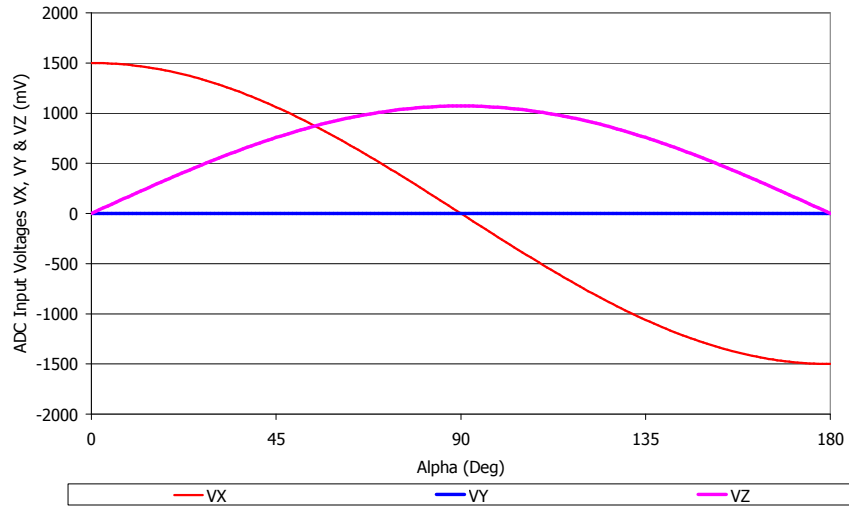
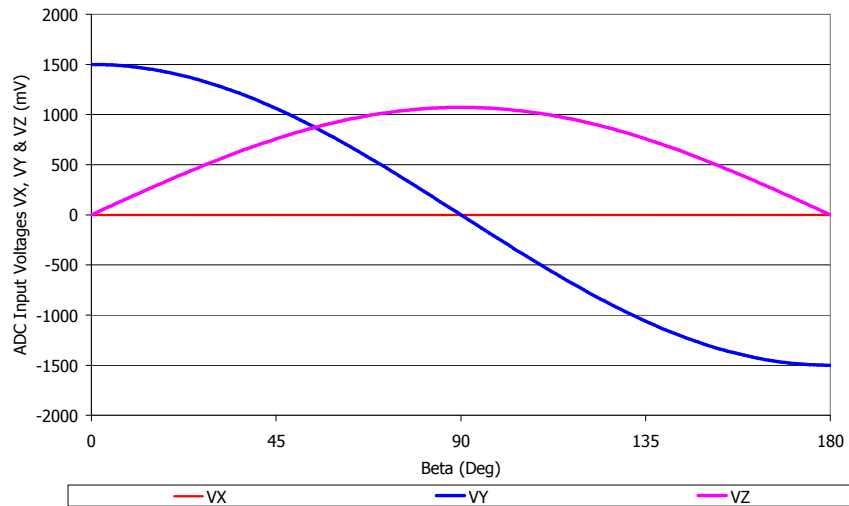

Figure 8 – ADC Input Signals – $\beta = 90$ Deg – $V_X \propto B_X \propto \cos(\alpha)$, $V_Y = B_Y = 0$ & $V_Z \propto B_Z \propto \sin(\alpha)$
Figure 9 – ADC Input Signals – $\alpha = 90$ Deg – $V_X = B_X = 0$, $V_Y \propto B_Y \propto \cos(\beta)$ & $V_Z \propto B_Z \propto \sin(\beta)$
Three (3) differential voltages corresponding to the three (3) components of the applied flux density are provided to the ADC (Analog-to-Digital Converter – Figure 8 and Figure 9). The Hall signals are processed through a fully differential analog chain featuring the classic offset cancellation technique (Hall plate quadrature spinning and chopper-stabilized amplifier).